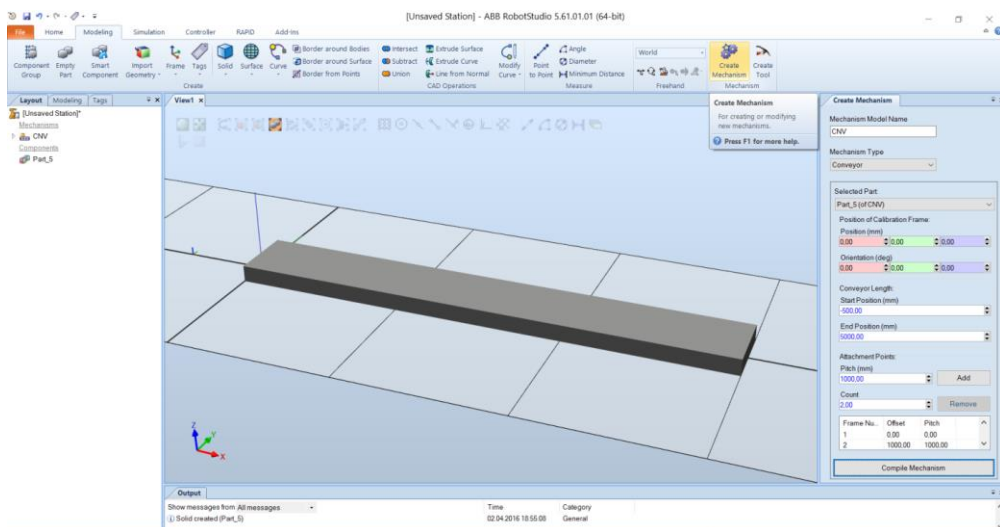

Figure 5.2. RobotStudio® - Define the conveyor mechanism
Like in the case of the defining a tool, a mechanism will also be created here, but the type of the mechanism will be different. From the Modeling menu, choose Create Mechanism (number 1 marked with red). Give a certain and intuitive name for the mechanism and at the Mechanism Type option select Conveyor (Figure 5.2).
At Selected Part (2) choose the create box, chose a starting position and an end position). Choose a Pitch and a count and then Add (number 3 marked with red); data from the video's start position = -500 mm, end position 5000 mm, pitch 1000 mm and count = 2 (Figure 5.2).